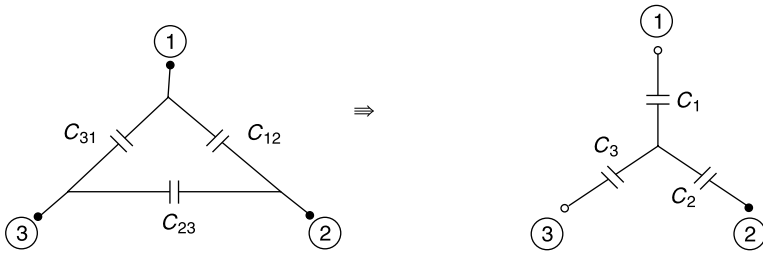

Fig. 2.60 Delta connected capacitors
2.56 Three delta connected capacitors are set to form a unit as shown in Fig. 2.60. It is required to transform the delta unit to equivalent star. Find these star capacitances for equal capacitances between similar terminals in both the connections.